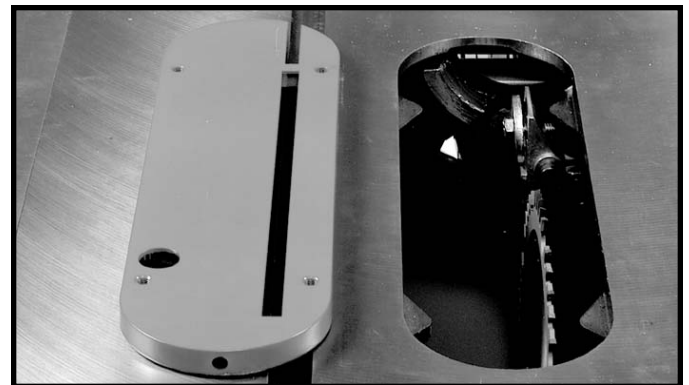

Fig. 14
1. Remove the table insert Fig. 14. Raise the saw arbor, by turning the locking handle on the front of the saw, counter clockwise and then turn the wheel on the front of the saw clockwise as far as it will go, and remove the saw blade from the machine by following the instructions in section "CHANGING THE SAW BLADE".